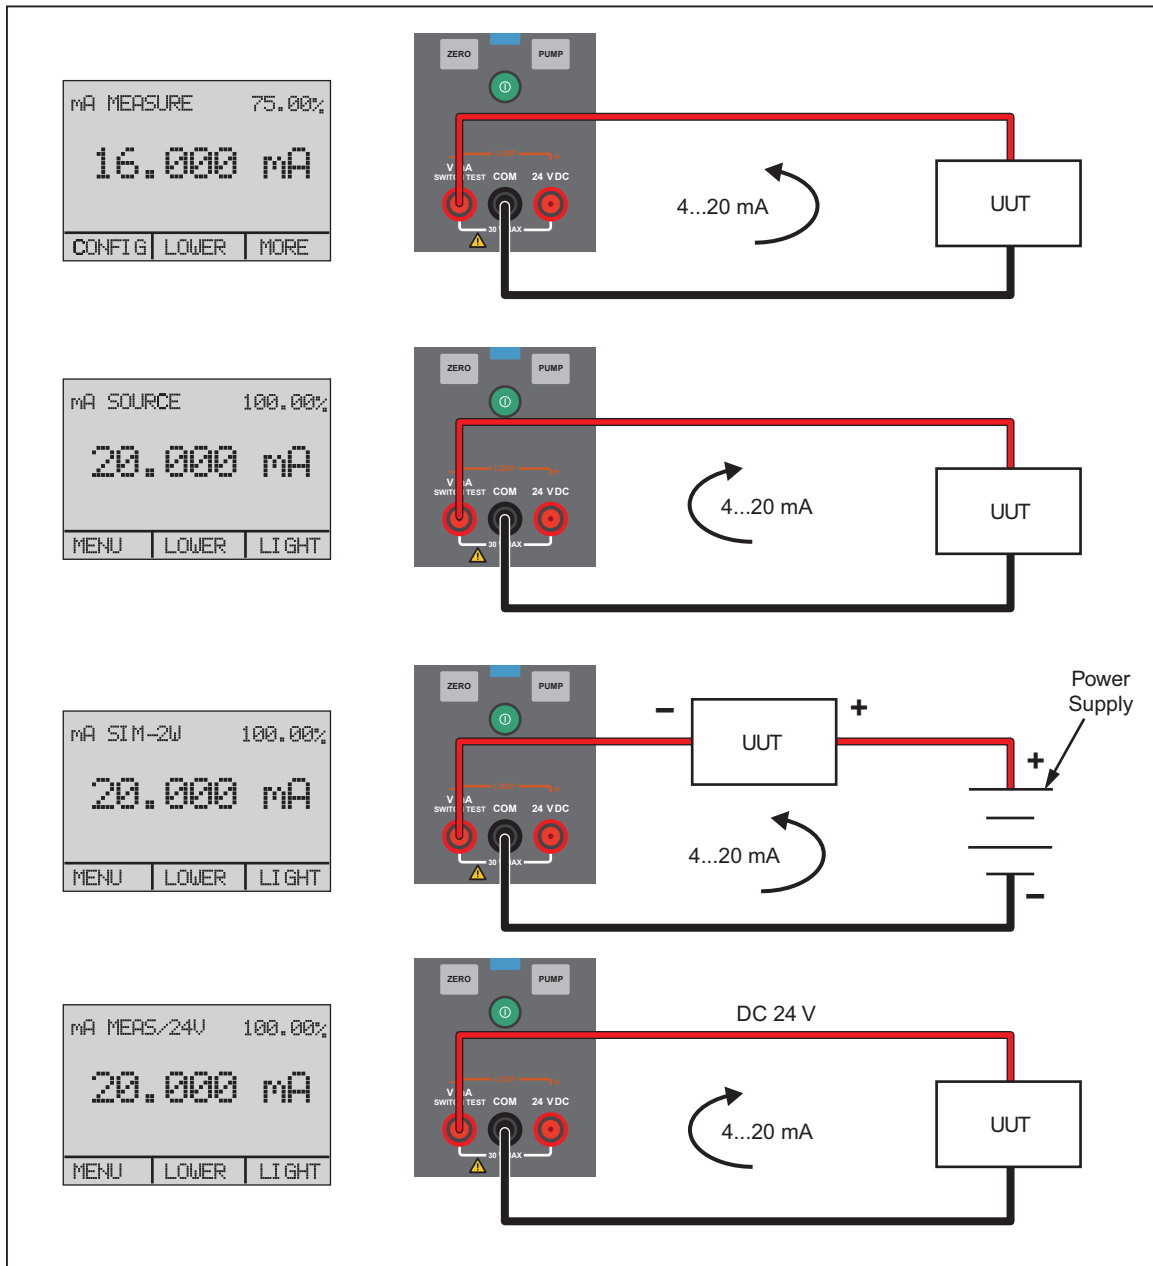

Figure 18. Measure and Sourcing Current
1. To measure current, use the input terminals on the front of the Product. Select the mA function on the lower display. Current is measured in mA and a percentage of the measuring range. The measuring range on the Product is set to 0 % at 4 mA and 100 % at 20 mA. See Figure 18 for connections.
4. Push the arrow key to start the output mode and then use the arrow keys to adjust the mA output. The function keys can also be used to control the output in 25 % steps (4, 8, 12, 16, 20 mA) or 0 % (4 mA) and 100 % (20 mA). See Figure 18.